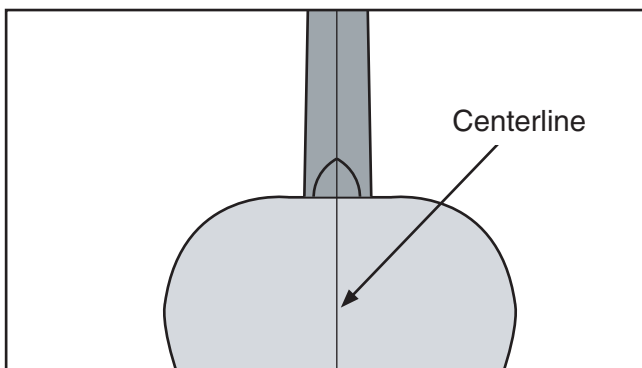

Figure 3. Marking the centerline of the ukulele body and neck.
4. Align the centerlines (see **Figure 3**).